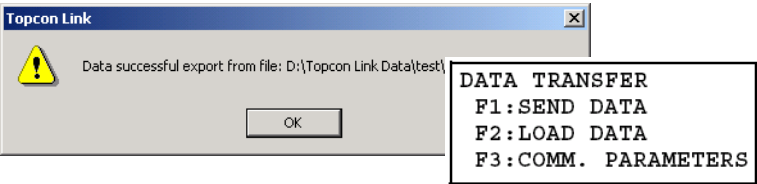

Figure D-7. Successful Export to the Total Station
12. After a successful export, Topcon Link will display a “successful export” message and the Total Station will return to the Data Transfer menu (Figure D-7).